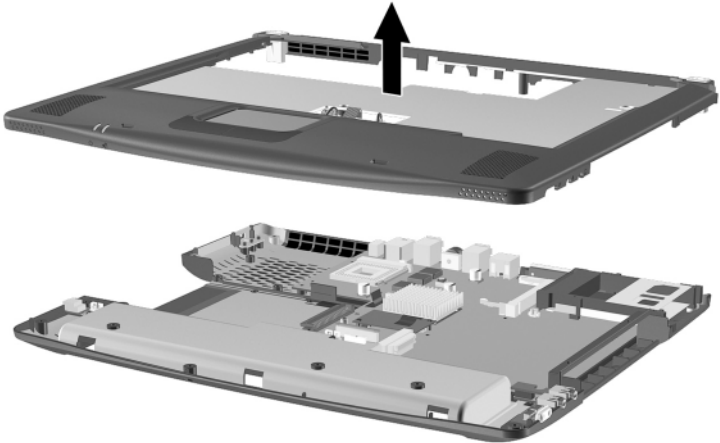

Figure 5-25. Removing the Top Cover
8. Lift the top cover straight up to remove it from the base enclosure (Figure 5-25).